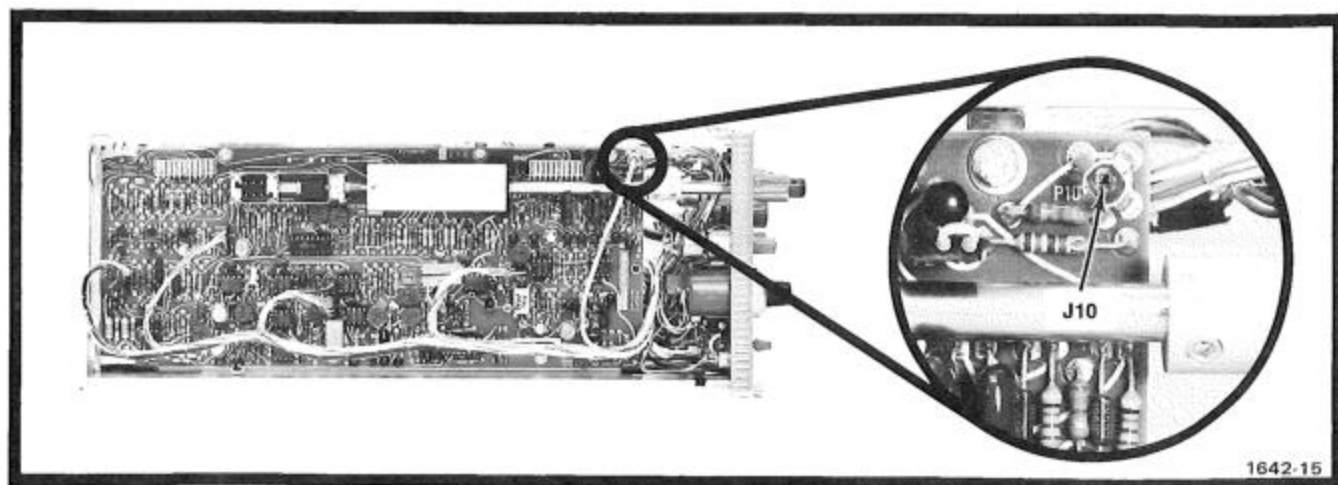

Fig. 5-10. Location of J10 on Vertical Circuit Board.
c. Connect the unused output of the BNC T to J10 on the Vertical Circuit Board in the 7J20 via a 067-0709-00 Interconnect Cable. See Fig. 5-10.